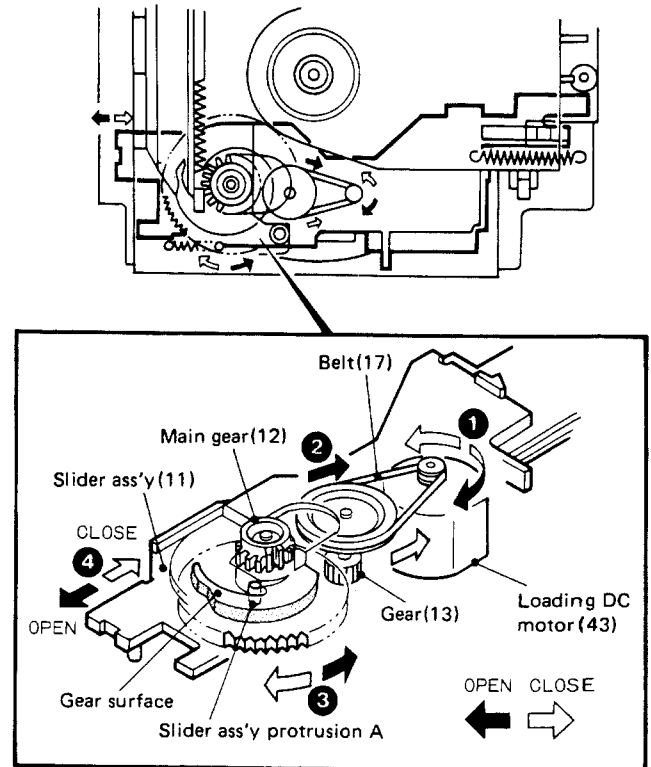
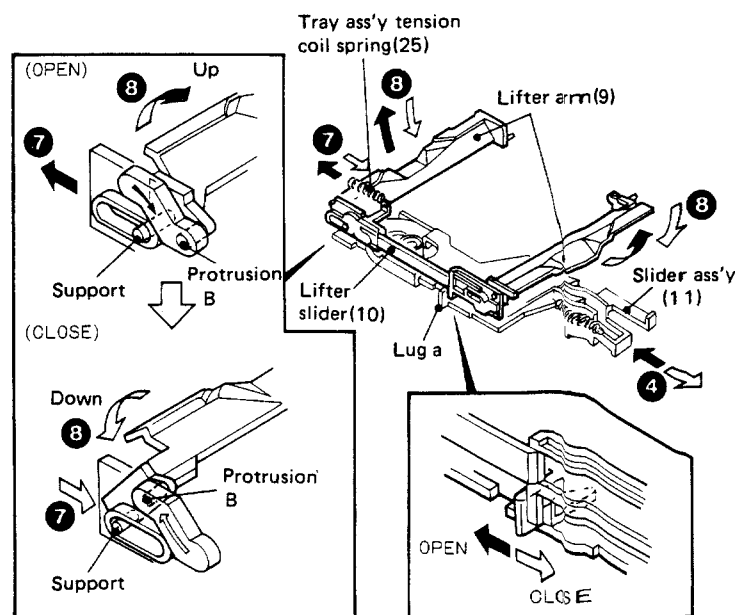

Fig. 2 Loading motor rotation transmission
Fig. 5 Lifter arm up/down operation
As shown in Fig. 2, loading DC motor (43) rotates in the direction of the black arrow ① and transfers the rotation of the black arrow ② to the gear (13) via the belt (17), and also rotates the main gear (12) in the direction of the black arrow ③ with the lower gear section of the gear (13). The main gear (12) contains the cam on its upper surface. Along with the surface of the cam, protrusion A located in the lower side of the slider ass'y (11) is shifted and the slider ass'y (11) begins to move in the direction of the black arrow ④.
Fig. 5 shows the OPEN operation until the disc is lifted from the turntable and placed on the disc tray so that the disc is removed from the player. These operations are performed almost at the same time as the up operations of the clamber arm (8) when the tray is opened as described in Fig. 2 to 4 above.